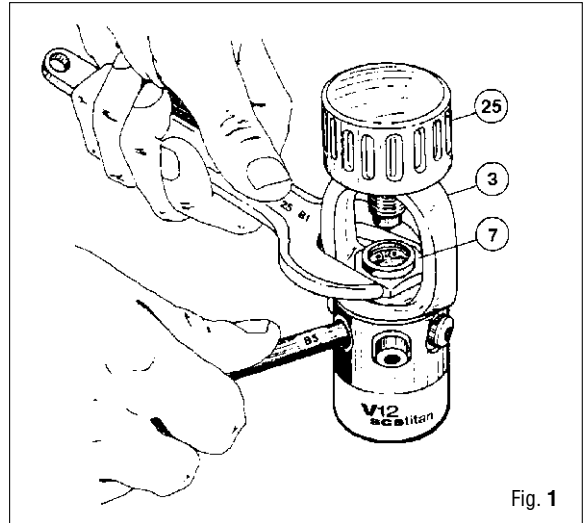

Fig. 1
2. Unscrew yoke retainer nut (7) with the special wrench (B-1), remove yoke (3) and knob assembly (25) (Fig. 1).